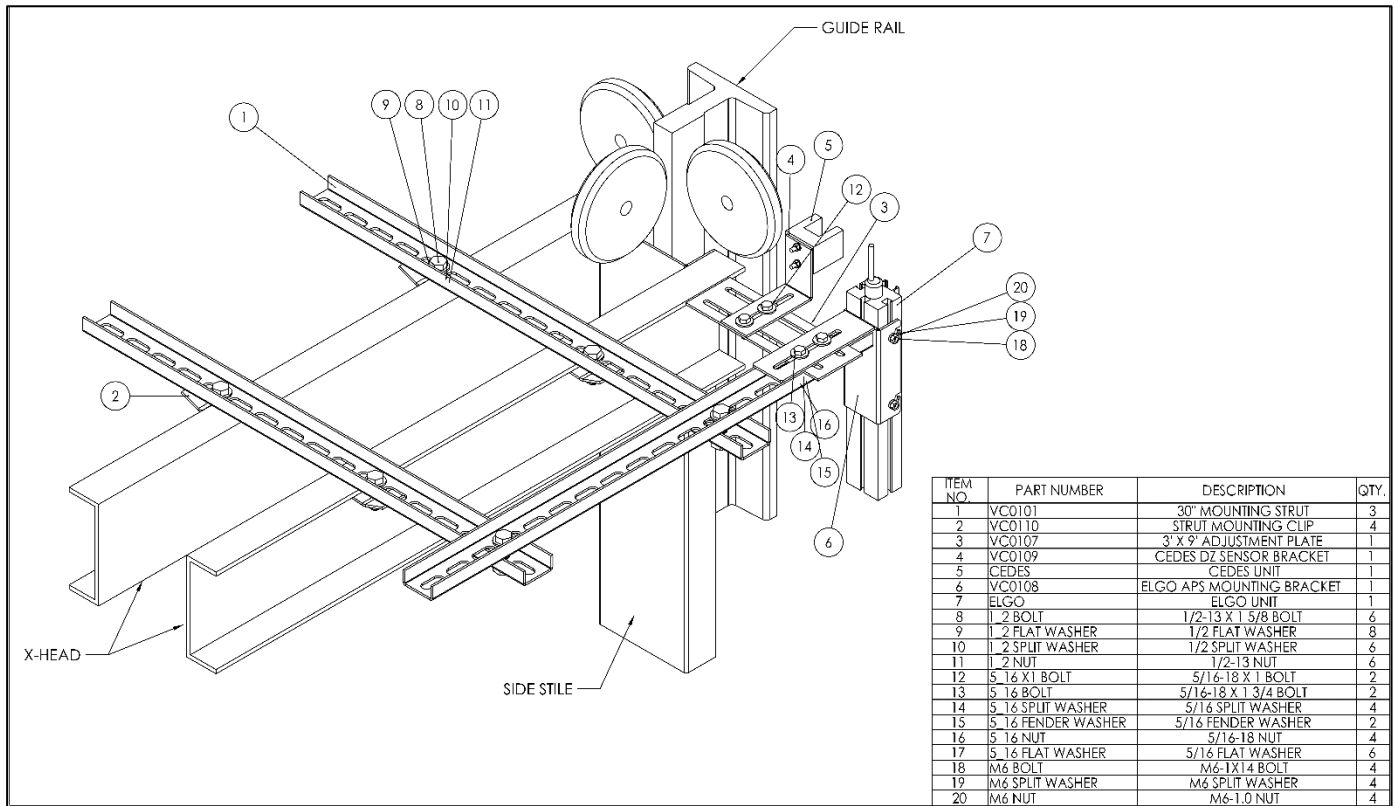

Figure 4 – Car Top Assembly
- Car Top Assembly (see Figure 4) – one per kit.
1. Refer to Figure 4 for illustration of the completed car top assembly.